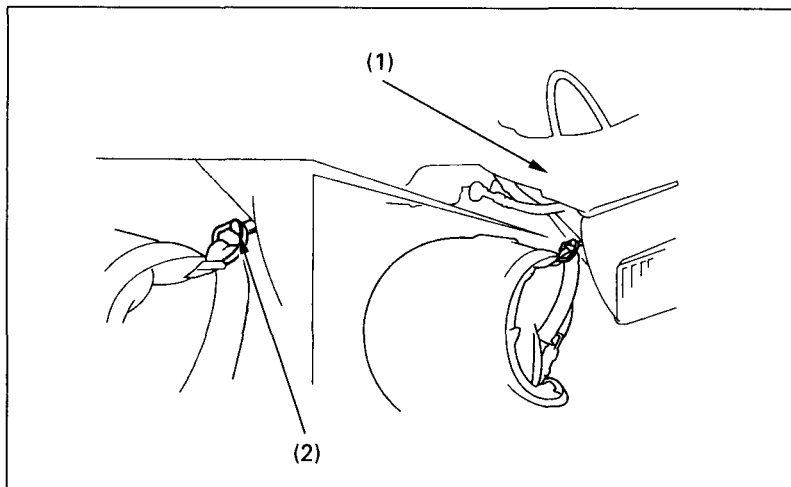

Fig. 2-19
The helmet holder (Fig. 2-19) is a bracket near the right side of the handlebar cover (1). To use the holder, hang the D-ring on your helmet strap over the bracket. Use the helmet holder only when the FOURTRAX is parked.